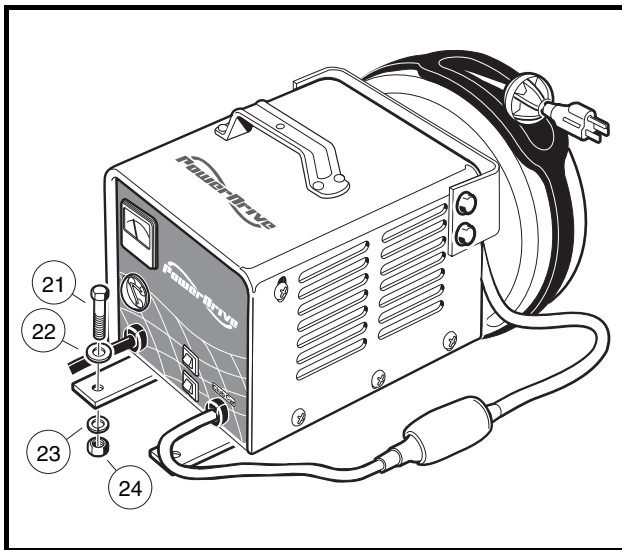

Figure 4-27 Onboard Charger Mounting – DS Villager
2. Remove four bolts (21), flat washers (22), lock washers (23) and nuts (24) from charger mounting brackets (Figure 4-27, Page 4-33).
3. Install four bolts (21), flat washers (22), lock washers (23) and nuts (24) securing charger to chassis and tighten to 108 in-lb (12 N·m) (**Figure 4-27, Page 4-33**).